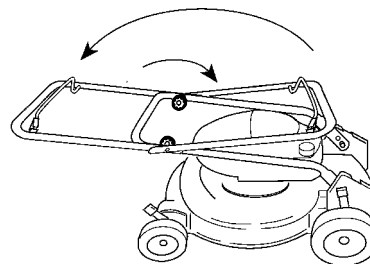

Figure 36
2. Rotate the handle toward the front of the lawn mower (Fig. 36).
3. Loosen the knobs that secure the top handle section to the bottom section and fold the top handle section back toward the rear of the mower into the storage position (Fig 36).